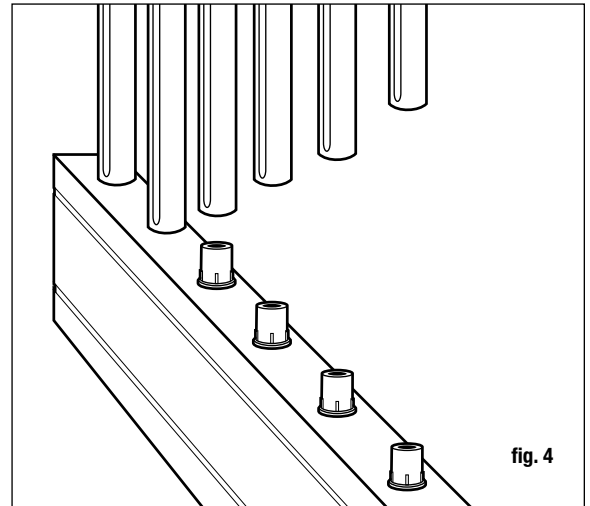

fig. 4
**Traditional, Baroque and Arc balusters** Both top and bottom rails will be installed with the pre-drilled holes facing down to prevent water from collecting in the rail. Maximum 4-1/2" on-center and equal spacing for the end spacing. Start by finding the center of the rail. Rail length  $\div 2 =$  center of rail. Start the first aluminum baluster on-center of the center line. Mark every 4-1/2" from this line to each end. This will leave the end spacing less than 4" on both ends and require 2.5 aluminum balusters per foot (fig. 4). Tip: Use a piece of 2x4 (3-1/2" actual) as a spacer block for the spacing between balusters.
**Classic, Estate and Glass balusters using connectors** Attach balusters to the lower rail by sliding onto connectors (fig. 4).